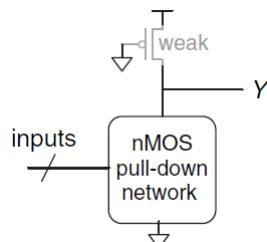

Figure 1.30 Generic pseudo-nMOS gate
Pseudo-nMOS logic replaces the slow stack of pMOS transistors with a single weak pMOS transistor that is always ON, as shown in Figure 1.30. This pMOS transistor is often called a *weak pull-up*. (Series connections are slower than parallel connections)
**Exercise 1.73:** A **majority gate** produces a TRUE output if and only if more than **half** of its inputs are TRUE. Complete a truth table for the three-input majority gate shown in Figure 1.30.